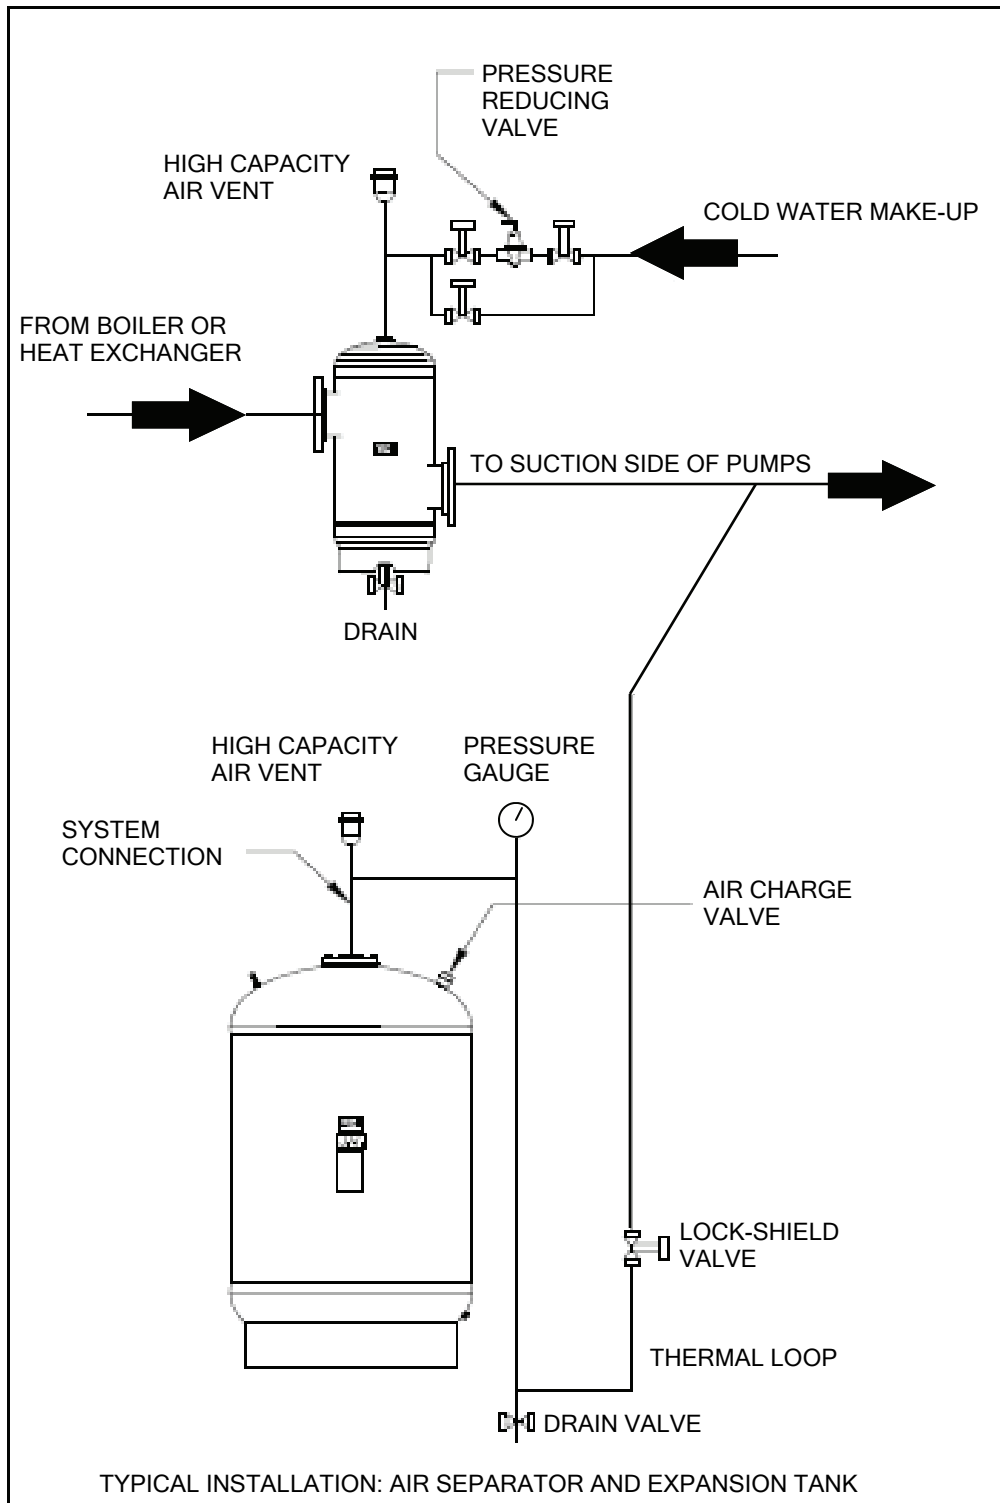

Figure 2
1. Tangential air separators are typically installed between the system boiler or heat exchanger and the system pump. See figure 2 for the recommended installation guidelines.